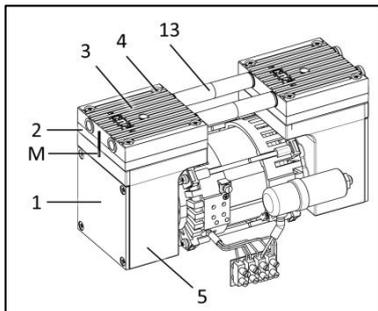

Fig. 31: Two-headed pump (N 838.1.2 KNE)
1. Mark the position of the head plate (3), intermediate plate (2) and housing (5) relative to each other by a drawing line with a felt-tip marker (M, see Fig. 31). This helps avoid incorrect assembly later.
2. Undo the 4 screws (4) in the head plate (3) and lift the head plate with the intermediate plate off the pump housing. For two-headed pumps: Undo the head-plate screws (4) in the head plate (3) and lift the two head-plates with the intermediate plates (2) and the pneumatic connections (13) off the pump housing.